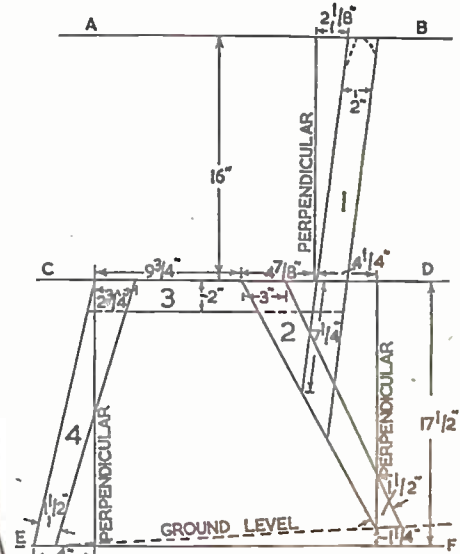

Fig. 4
Commence by drawing three parallel lines — AB, CD and EF as indicated in Fig. 4. Draw in the three perpendiculars, spaced out as shown. It is now a simple matter to draw in the various pieces from the measurements shown. Start with the back support (1) and then the back leg (2).